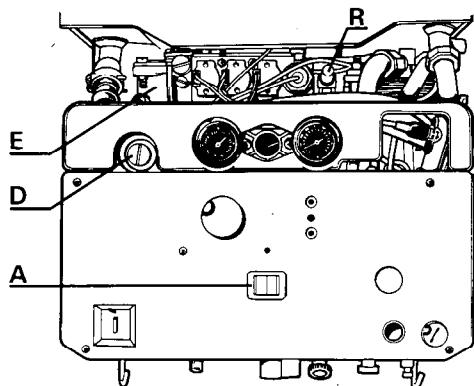
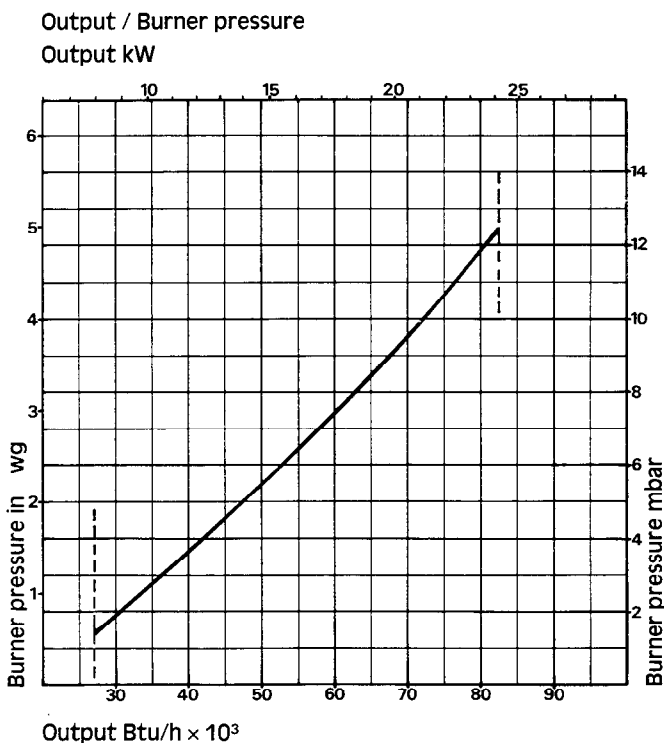

Fig. 35
Fig. 37
- 4) Vent automatic air separator/air purger by loosening screw (fig. 35) (E) two complete turns from closed position.
- N.B.** Leave screw (E) in open position.
- 8) Manually check pump is free to rotate. Remove cap (fig. 35 D).
- 9) Switch to HOT WATER + CENTRAL HEATING on selector switch (A) (fig. 35) switch position (II).
- 11) Isolate water supply and drain boiler by disconnecting fill system and opening the drain valve (F). This is incorporated in the safety valve and is achieved by screwing down the head until the valve lifts. Open all low level drain cocks.
- 12) Remove filter in the return isolating valve (C) and inspect for any installation debris, see section (7.6) to clean and replace.
- 1) Switch boiler to the off (O) central position, see section 6.3 (fig. 35).
- 2) Remove the pressure test point screw - (B) and connect a suitable pressure gauge.
- 3) Remove the hexagonal cap from gas rate adjuster exposing the adjusting screw (C).
- 4) Switch the boiler to hot water and central heating (II) and check that any fitted external controls are calling for heat.
- 5) Adjust. Setting pressures are given in graph figs. 37 and 38. The pressure will be reduced by clockwise movement of screw, increased by anticlockwise movement. Now select hot water only, adjust temperature knob, see fig. 4 (25), to minimum and open the largest volume draw-off tap. The gas pressure should now be the maximum as indicated in Technical Data. Now reduce the water flow to minimum and check that the burner reduces its output, this will take a short period of time.
- 6) Switch boiler off (O). Remove pressure gauge and replace test point screw and gas rate adjuster hexagon cap. Check for gas soundness around screw.